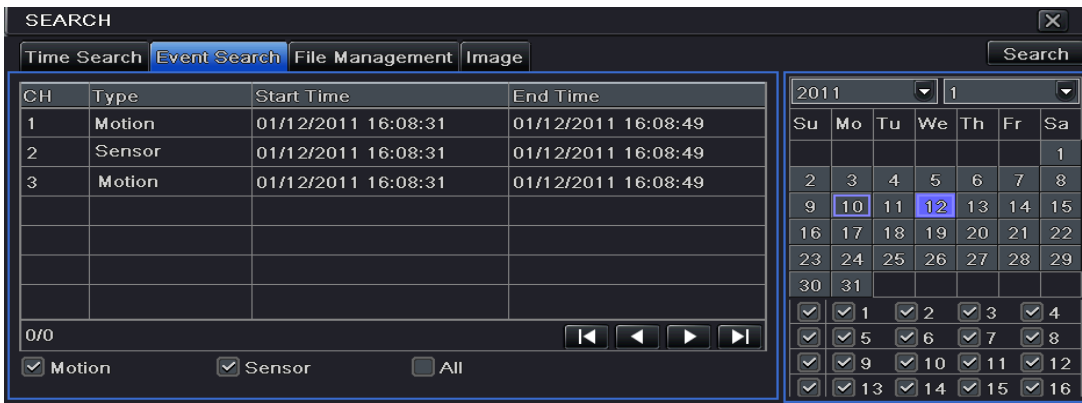

Fig 5-2 Search Configuration-Event Search
Step1: Enter into Menu→Search→Event Search tab. Refer to Fig 5-2: